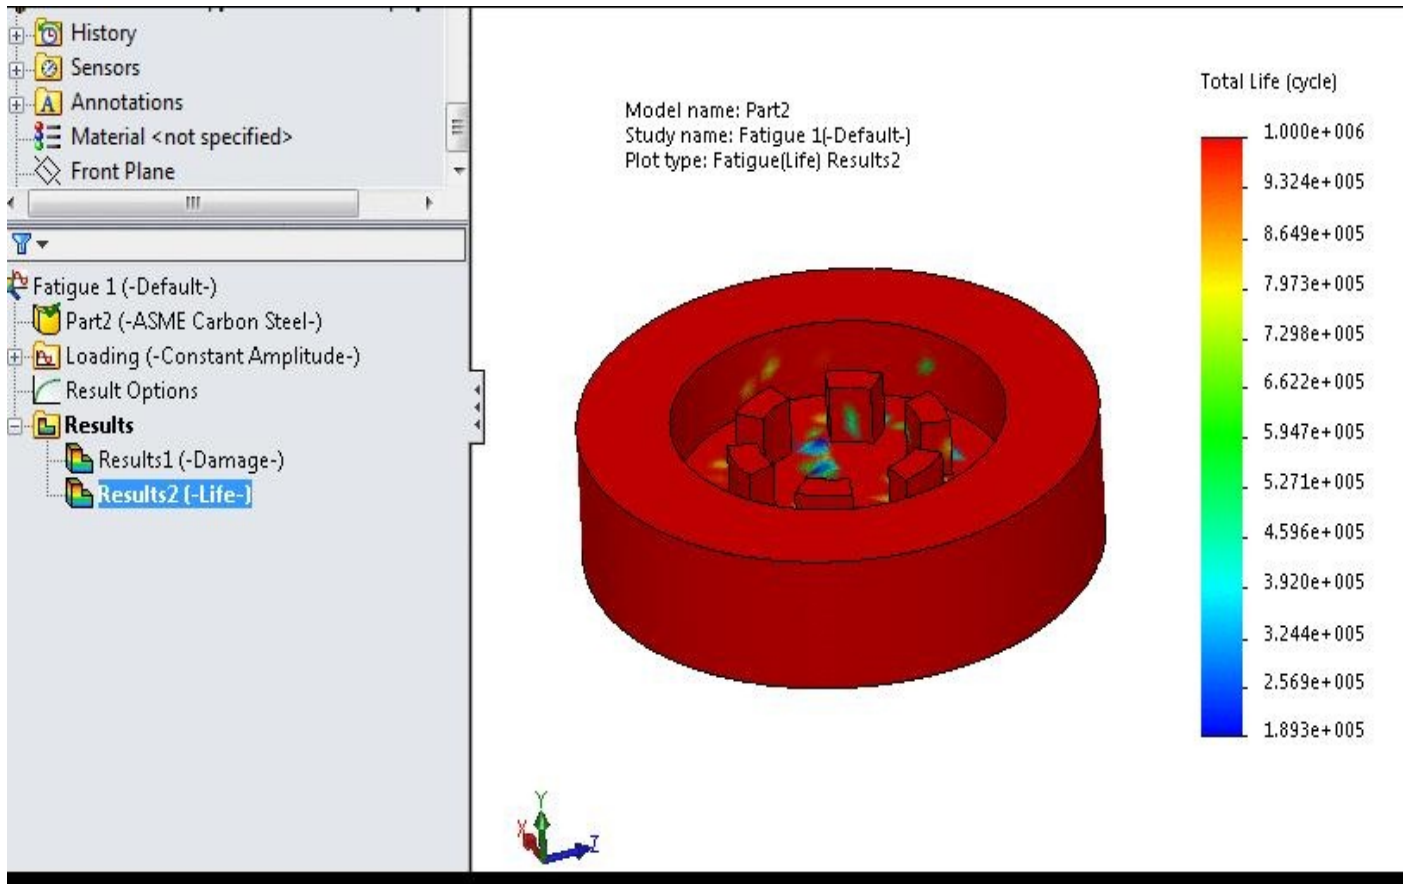

Figure-16. Fatigue result
- Expand the node and double-click on the results to display the plot; refer to Figure-16.